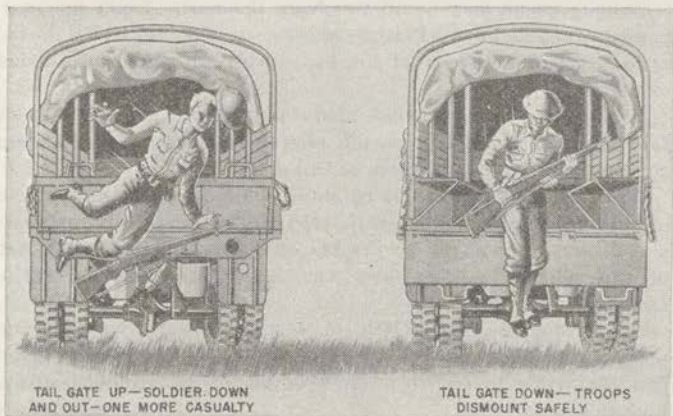

FIGURE 45.—Put tail gate down before troops mount or dismount
d. Tail gate.—When troops or other passengers are getting on a truck, or particularly when they are getting off, open the vehicle's tail gate so that they will be less likely to trip and fall (fig. 45). But don't leave it open. Your passengers or load will be safer if you close the tail gate before starting and so will the tail gate. Make it a practice to keep the tail gate opened while the vehicle is loading or unloading and closed while the vehicle is moving.